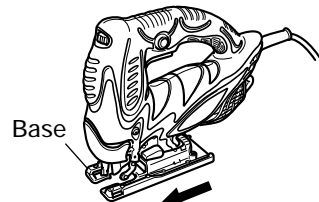

Fig. 11
- (2) Move the base fully forward (Fig. 11), and tighten the base bolt again.